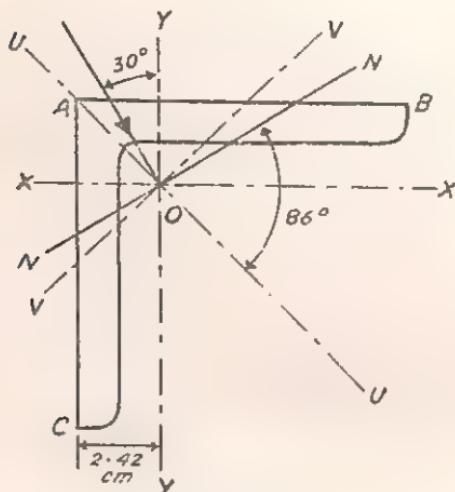

Fig. 66
12) A cantilever consists of an 80 mm \times 80 mm \times 12 mm angle with the top face AB horizontal as shown in Fig. 66. It carries a load of 200 kg at 1 m from the fixed end, the line of action of the load passing through the centroid of the section and inclined at 30° to the vertical. Determine the stresses at the corners A , B and C at the fixed end and also the position of the neutral axis.